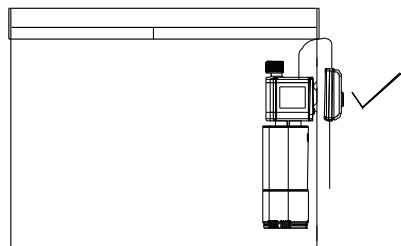

Fig.2
- To avoid the risk of shorting by water vapor, the Control Box **MUST** be affixed onto the outside of the tank but **NOT** on the top of the tank. (Fig.2)